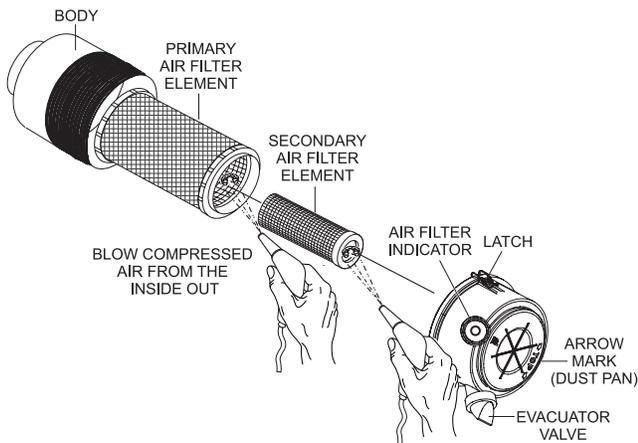

Figure 176. Engine Air Cleaner
This Isuzu diesel engine is equipped with a replaceable, high-density, paper air cleaner element (Figure 176). The air cleaner is also equipped with an inner (secondary) element that is used as a backup filter should the primary element become damaged. Check the air cleaner daily or before starting the engine. Replace the air cleaner as needed.
1. Release the latches that secure the cover to the air cleaner body (Figure 176).
2. Remove the **air cleaner cover** (Figure 176) and set it aside.
3. Remove both the primary and secondary air cleaner elements (Figure 176).
5. To clean the **primary element** (paper air filter) as shown in Figure 176, tap the filter element several times on a hard surface to remove dirt, or blow compressed air, not to exceed 30 psi (207 kPa, 2.1 kgf/cm²), through the filter element from the inside out.
8. Clean the inside of the **air cleaner body** (Figure 176).